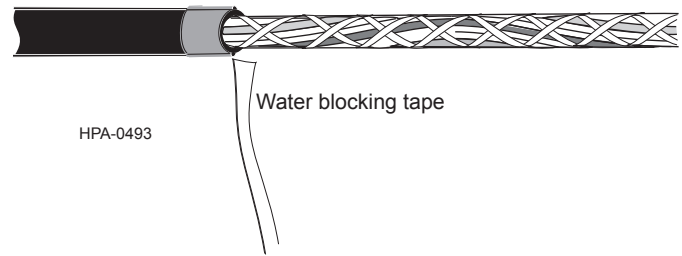

Figure 9
Step 3: Separate the water blocking tape from the cable core to expose the buffer tubes (Figure 9). Use scissors to cut the water blocking tape flush with the end of the cable sheath.